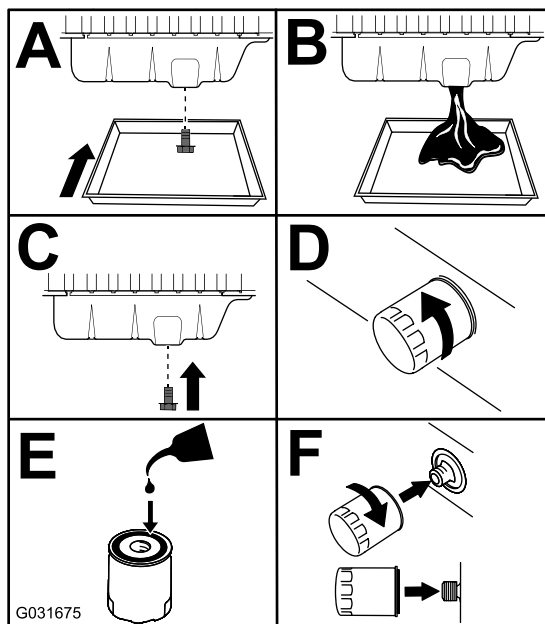

Figure 87
3. Replace the engine oil and filter (Figure 87).